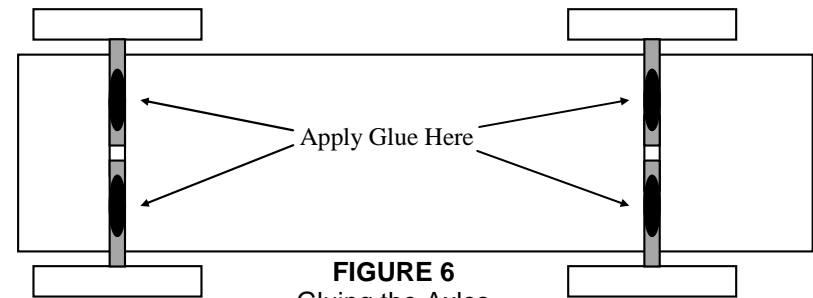

FIGURE 6
6. **Axle Slots Only** - To keep the axles from becoming misaligned during the race, place glue in the axle slots on top of the axles (see Figure 6). Use epoxy, hot glue, white glue, or a similar product. ***Keep the glue away from the wheels!*** Remove excess glue, making sure that the glue does not hang down below the car, reducing the clearance to less than 3/8 inch. Set the car on its back to dry for 24 hours.